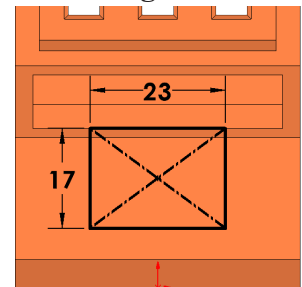

Fig. 68
Step 7. Click **Smart Dimension**  (S) on the Sketch toolbar.
Step 8. Add dimensions, **Fig. 68**.